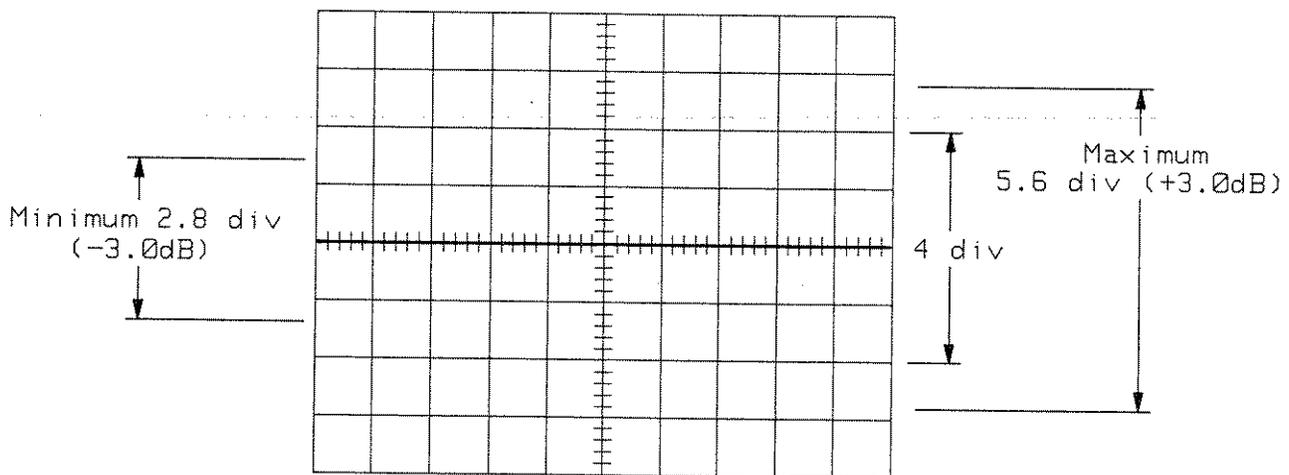

Figure 5-32. Flatness Response
13. Sweep the function generator frequency from 100 Hz to 10 MHz. Iterate between adjustments A5C14 (LO) and A5R75 (HI) to obtain the most constant overall response from 100 Hz to 10 MHz.
14. Check that the +3 dB flatness specification is met between 100 Hz and 2 MHz as follows. Sweep the function generator frequency between 100 Hz and 2 MHz. On the oscilloscope, note the maximum point (+3.0 dB) can be up to 5.6 divisions, and the minimum point (-3.0 dB) which can be down to 2.8 divisions. Refer to Figure 5-32.